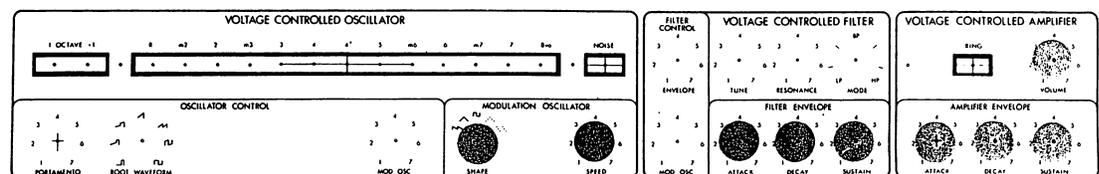

Fig. 3 Controllers
**II. CONTROLLERS:** Figure 3 indicates those functions we have designated as CONTROLLERS. The controllers are used basically to introduce time varying changes in pitch, timbre, and loudness.